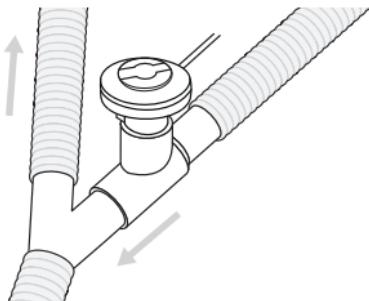

Figure 6. Connecting the Aerogen Pro to an adult breathing circuit
1. For adult breathing circuits, connect the nebuliser with adult T-piece into the inspiratory limb of the breathing circuit before the patient Y (Figure 6).
Note: Figure 6 shows adult configuration only
- Always maintain the nebuliser in a vertical orientation (with the filler cap uppermost) while in the patient circuit (Figures 6, 7, & 8). This orientation prevents condensate from blocking the nebuliser and ensures proper nebulisation. Always visually inspect the nebuliser prior to placing in the ventilator circuit to assure that no secretions are blocking the Aerogen Vibronic® aerosol generator.